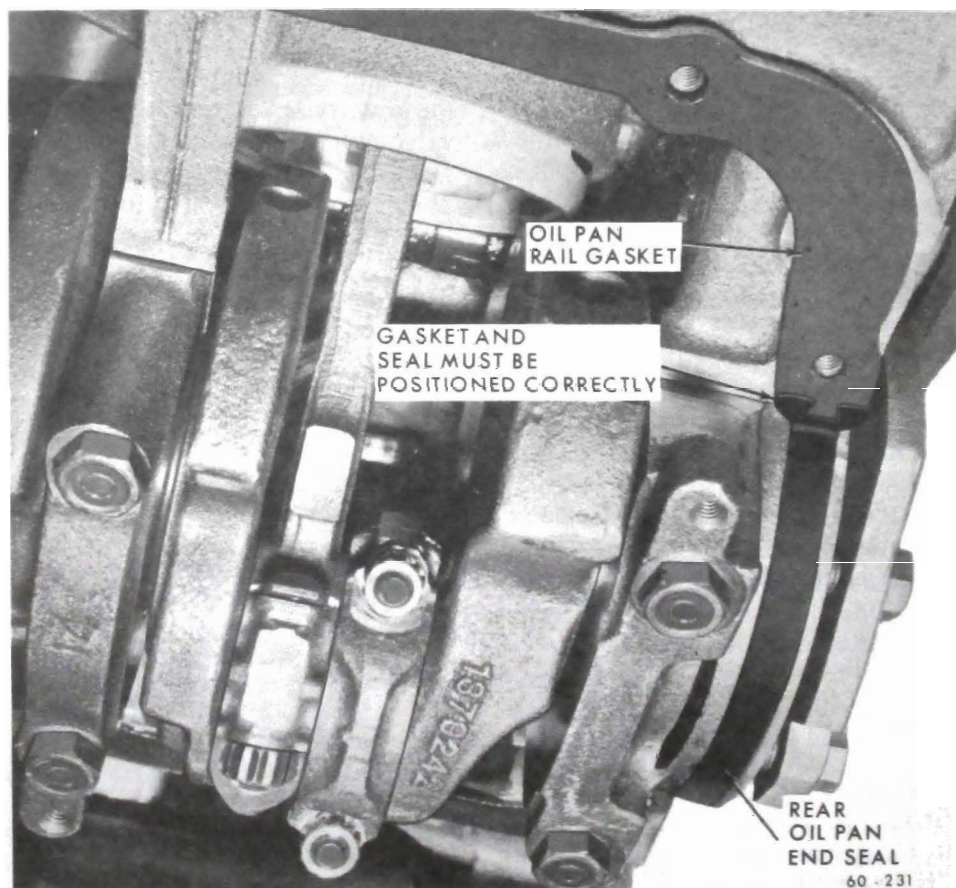

Figure 60-224A Oil Pan gasket and Seal Installation
2. Apply non-hardening Permatex to a few spots on a new pan gasket (cork) and install on block. *Make sure seal and gasket are properly fitted.* See Figure 60-224A. (400 and 430 cu.in. only).